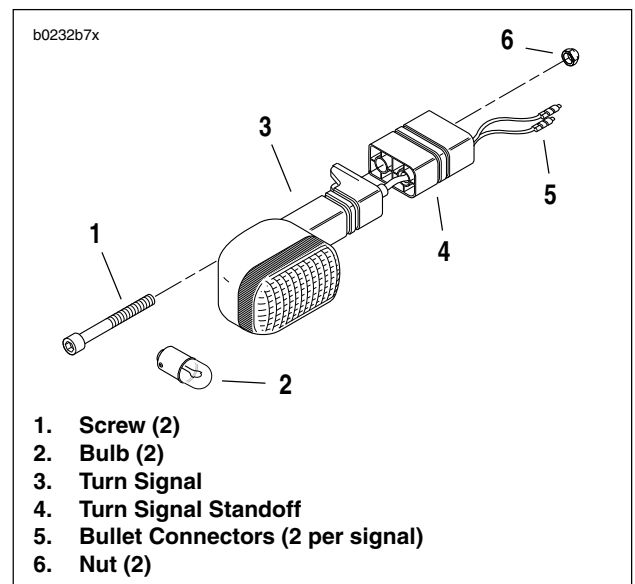

Figure 7-65. Front Turn Signals
3. See Figure 7-65. Remove screws (1) and nuts (6).
4. Remove turn signals (3) and standoffs (4).
1. See Figure 7-65. Install turn signals (3) and standoffs (4) using screws (1) and nuts (6). Tighten to 20-23 **in-lbs** (2.3-2.6 Nm).